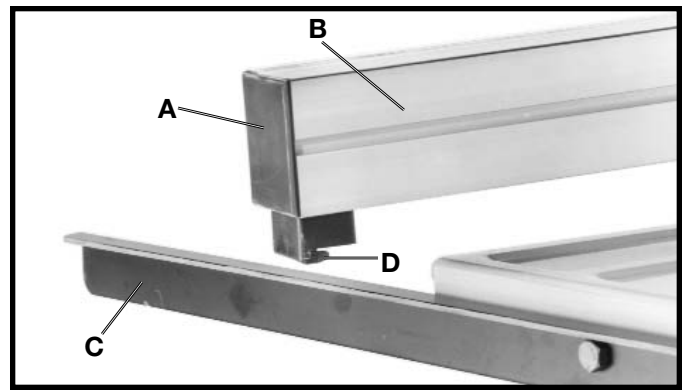
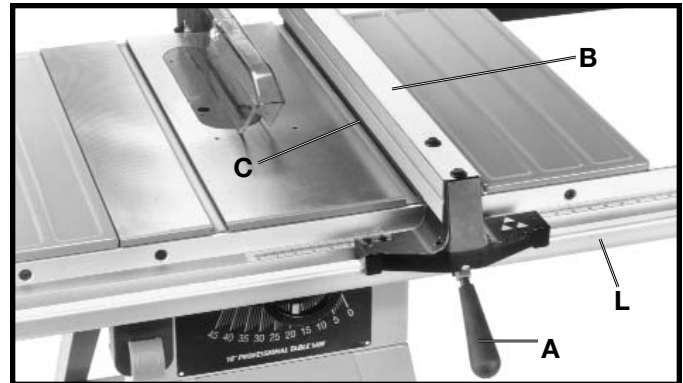
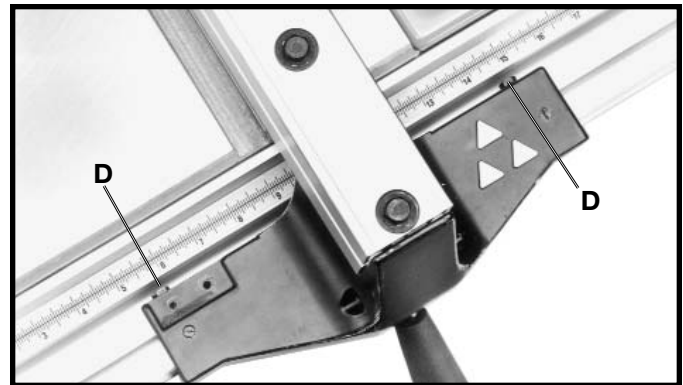

Fig. 45
Fig. 46
Fig. 47
1. Insert end cap (A) Fig. 45, into back of rip fence (B).
2. With the fence handle (A) Fig. 46, in the raised position, place the rip fence (B) onto the rear guide rail (C) so the hooked end (D) Fig. 45, fits over the top ledge of the guide rail as shown.
3. Lower the front of rip fence (B) Fig. 46, onto the front guide rail (L).
4. Lock the rip fence (B) Fig. 46, on the guide rails by pushing down handle (A).
5. Slide rip fence (B) Fig. 46, against one edge of the miter gage slot (C) as shown. Clamp the fence onto the guide rail by pushing down on lock handle (A). The edge of the fence (B) Fig. 46, should line up so it is parallel with the edge of the miter gage slot. If an adjustment is necessary, tighten or loosen either of two screws (D) Fig. 47, as necessary until rip fence (B) Fig. 46, lines up with the miter gage slot. **NOTE:** Cursor has been removed for clarity.